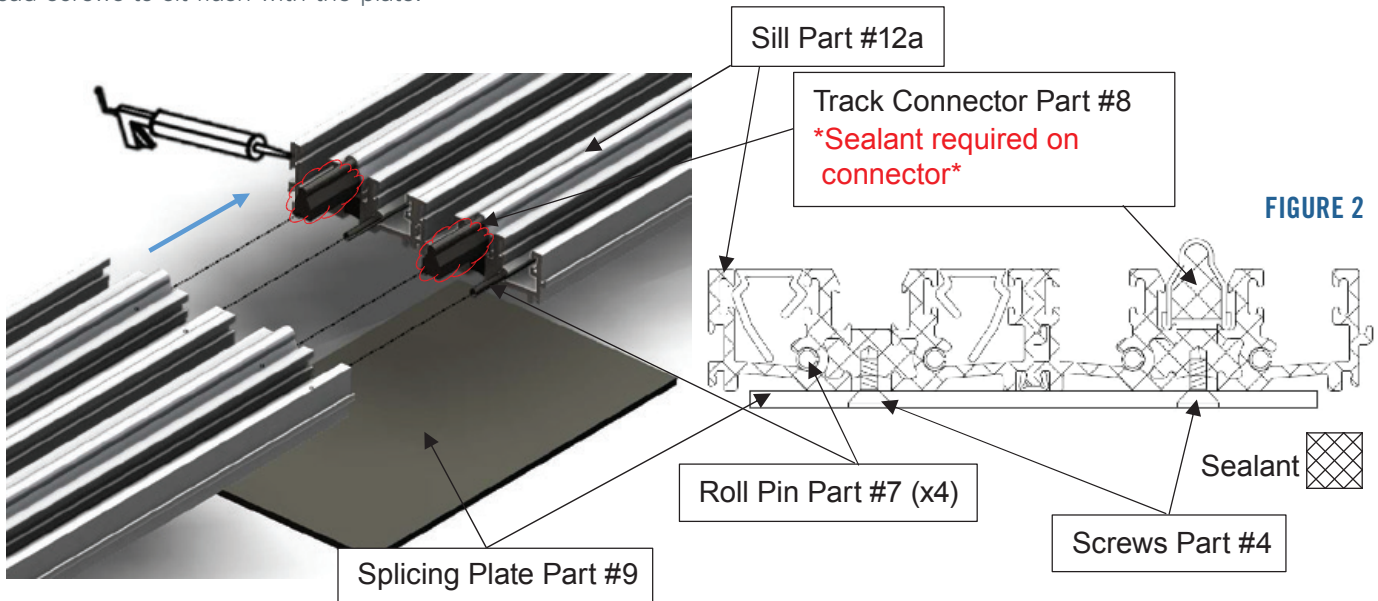

FIGURE 1
6. Splicing is required for doors wider than extrusion stock length. To splice the sill (and Flush Set Sill), insert roll pins (Part #7) halfway into screw channels as shown in Figure 1 & 2. Coat track connectors (Part #8) in sealant (Sealant should conform to AAMA 802.3-16 and 803.3-16) and slide halfway into the roller track. Coat the entire cross-sectional face with sealant as shown in Figure 2 and join the components by tapping one track into the other. Lastly, fasten Splicing Plate (Part #9) over the junction using (Part #4) screws. Screw in the location of the thermal dividers (shown in Figure 2). Splicing plate is not required for a flush set sill. Before screwing the plate to the sill, use a $\frac{3}{8}$ " countersink bit to create countersinks for the top of the flat head screws to sit flush with the plate.
7. To splice the head (Figure 3a), insert roll pins (Part #7) into the head screw channels (Figure 1 & 2). Coat the entire cross section in sealant as shown in Figure 2, join components, and ensure track clip (Part #6) crosses over the splice (if multiple track door). Lastly, attach splicing plate (Part #9) over the junction using (Part #4) screws at the thermal breaks. Countersink the plate for the screws beforehand.